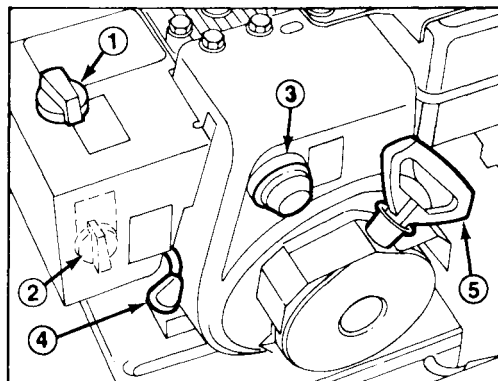

Figure 15
**Throttle** (Fig. 15) — Moving the throttle upward increases engine speed.
**Choke** (Fig. 15) — Choke for engine is located on heater box. Rotate choke to FULL choke position to start a cold engine. As engine warms up, move choke gradually to OFF.
**Primer** (Fig. 15) — Press primer to pump small amount of gasoline into engine for improved cold weather starting.
**Recoil Starter** (Fig. 15) — Recoil starter is on back side of engine. Pull recoil starter to start engine.
2. Move throttle to FAST (Fig. 15).
4. Rotate choke to full choke position (Fig. 15).
6. Depress primer (Fig. 15) five times.
7. Grasp recoil starter handle (Fig. 15) and pull it out slowly until positive engagement results; then pull vigorously to start the engine. Keep firm grip on starter handle and return the rope slowly.
8. After engine starts, immediately rotate choke (Fig. 15) to 3/4 position. As engine warms up, rotate choke to 1/2 position; then to OFF position. If engine falters, return choke to 1/2 position. When engine warms sufficiently, rotate choke to OFF position.
2. Move throttle to slow and rotate ignition key to OFF (Fig. 15).